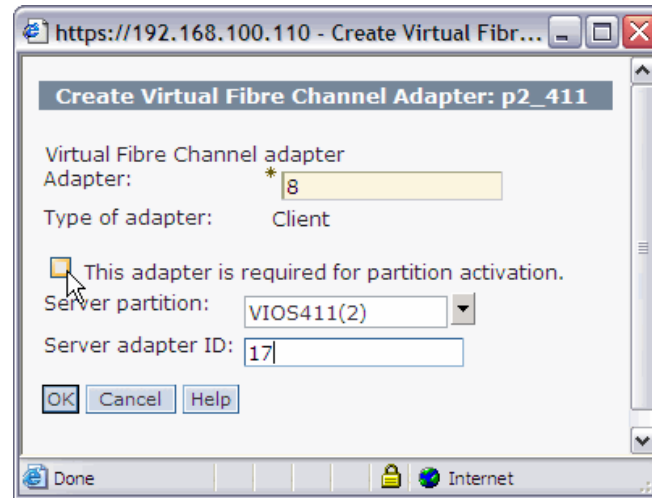

Figure 5-19 Fibre Channel Adapter resources
- c. In the Fibre Channel resource panel (Figure 5-19) enter the slot numbers that match the numbers that you used when you defined the Fibre Channel Adapter on the Virtual I/O Server endpoint in step 12a on page 124. Click **OK** when complete.
Note: On the panel shown in Figure 5-19, the “This adapter is required for partition activation” check box was not selected during the test migration. In production this option should be selected.